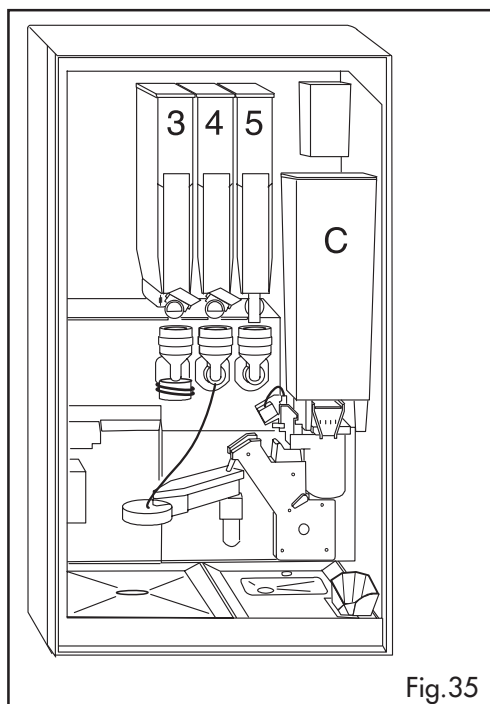

Fig.35
Like the version "PLUS", the "DA 10P STANDARD" dispenses beverages using both soluble products and coffee beans. However, it is possible to use only three different types of soluble products instead of five (as in the "PLUS" version). Bins 1 and 2 are not available. Bins ref. 3-4-5-C (Fig. 35) are available.
- If decaffeinated soluble coffee is going to be used, the decaffeinated pre-selection button ref. 6 (Fig. 23) must be programmed and decaffeinated soluble coffee must be filled in the corresponding bin ref. 5 (Fig. 35) as stated in section 4.14.